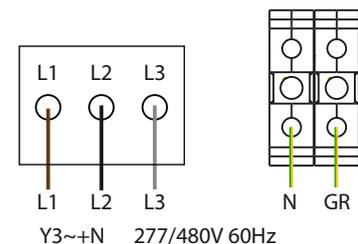

Figure 12: Connection
- 2. Connect the cables in accordance with the label on the PCB terminals (Figure 12 on page 19).